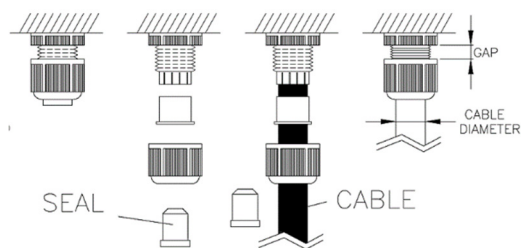

Fig1
3. Cable sealing nut's gap refer Fig 1 & 2.